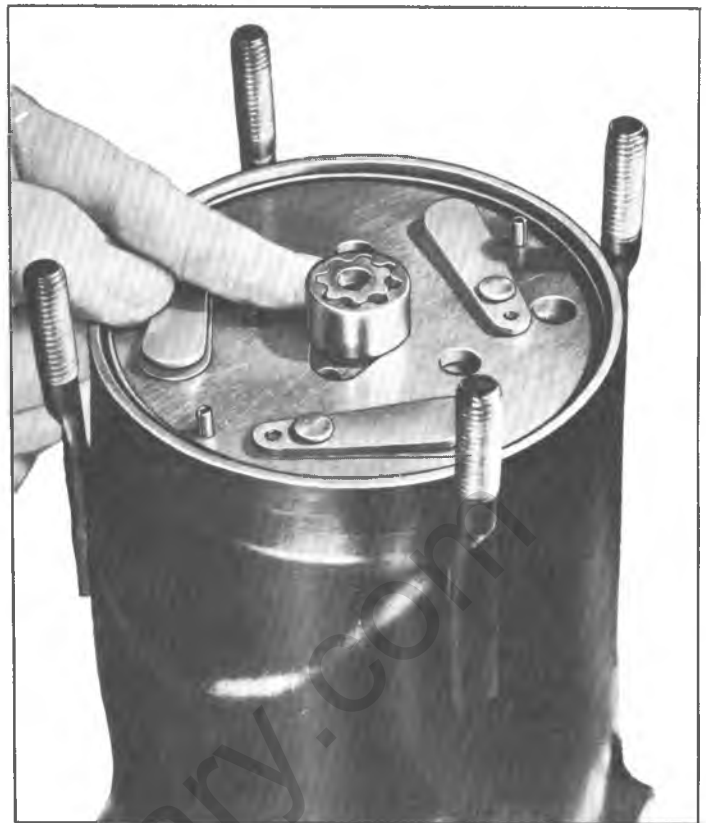

Fig. 15--Proper Oil Pump Gear Positioning
- c. Facing the centerline of the sump and viewing from the sump side (bottom) of the compressor, move the OUTER gear toward the right (side having the oil drain fitting) until it is at approximately 90 degrees (3 o'clock position) from the centerline of the oil sump (fig. 15).